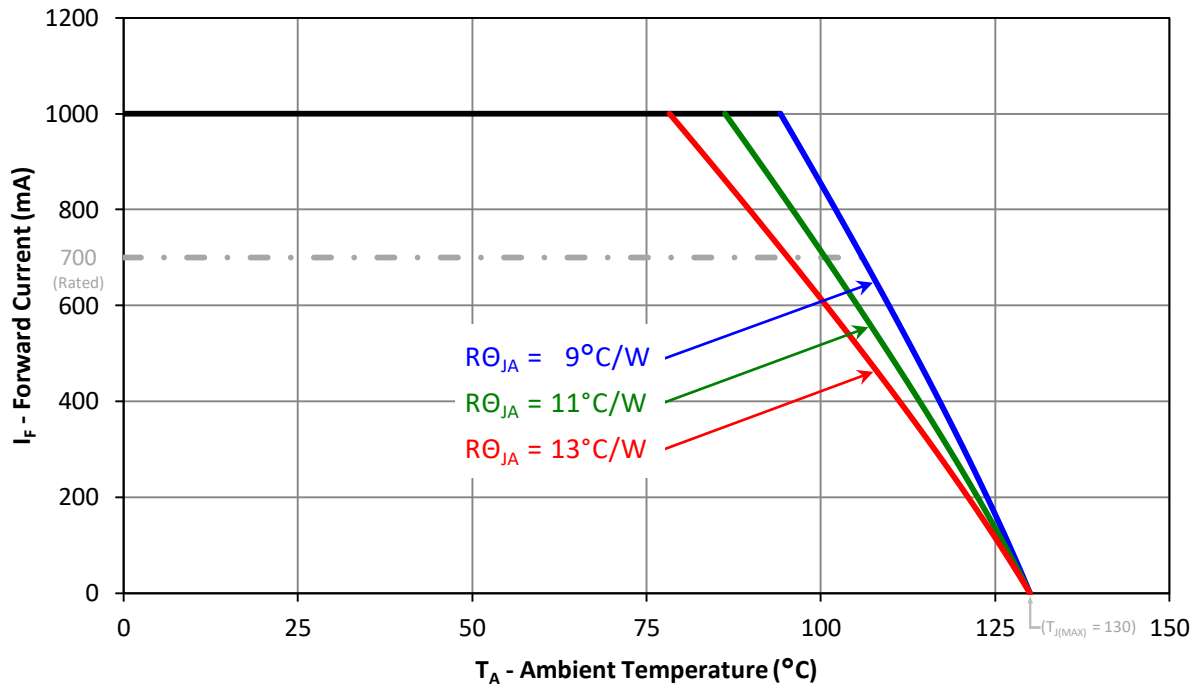

Figure 11: Maximum forward current vs. ambient temperature based on  $T_{j(\text{MAX})} = 130^\circ\text{C}$ .
- Maximum DC forward current is determined by the overall thermal resistance and ambient temperature. Follow the curves in Figure 11 for current derating.
Notes for Figure 11: